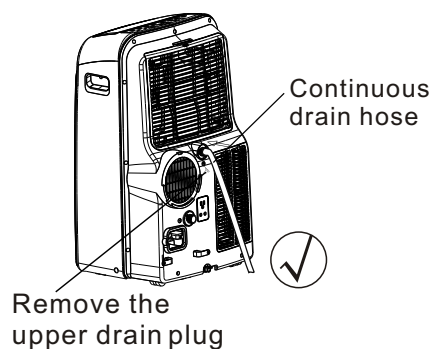
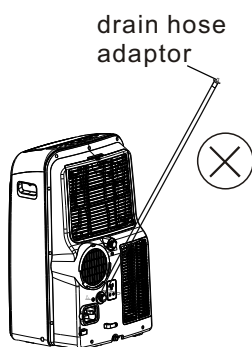

Fig.20a
Fig.21b
- During dehumidifying modes, remove the upper drain plug from the back of the unit, install the drain connector(5/8" universal female mender) with 3/4" hose(locally purchased). For the models without drain connector, just attach the drain hose to the hole. Place the open end of the hose directly over the drain area in your basement floor. Please refer to Fig.20a.
NOTE: Make sure the hose is secure so there are no leaks. Direct the hose toward the drain, making sure that there are no kinks that will stop the water flowing. Place the end of the hose into the drain and make sure the end of the hose is down to let the water flow smoothly. (See Fig.20a,20b,21a). Do never let it up. (See Fig.21b).